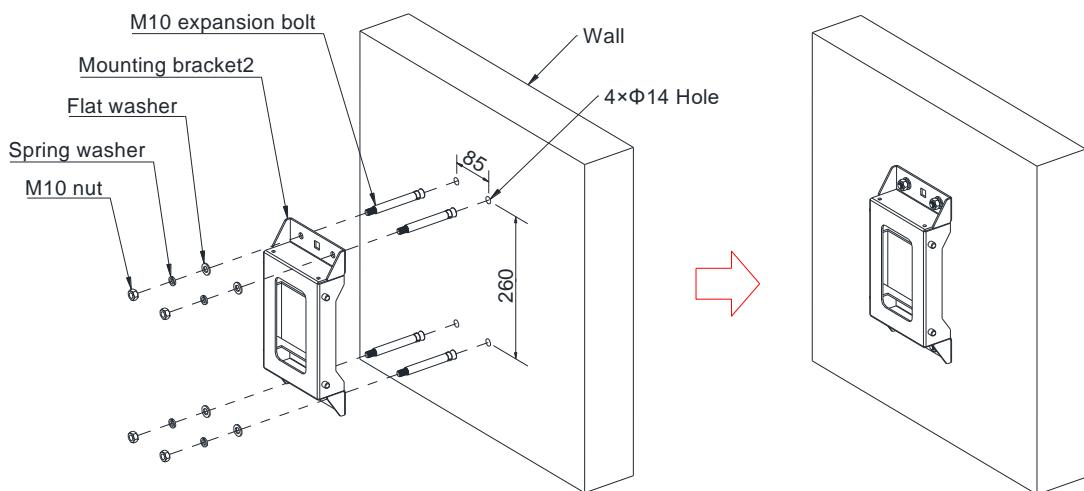

Figure 3.7-8 Fix Bracket 2 on Wall
Step 4: Use a hammer to knock four M10x110 expansion bolts into the wall, and fix bracket 2 on the wall, as shown in Figure 3.7-8.